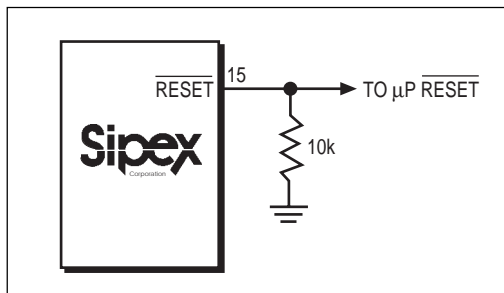

Figure 4. Adding an external pull-down resistor ensures RESET is valid with VCC down to GND.
1.6mA at $\overline{\text{VOUT}} = 0.5\text{V}$. When no backup battery is used, $\overline{\text{RESET}}$ output is valid down to $\text{VCC} = 1\text{V}$, and an external $10\text{k}\Omega$ pull-down resistor on $\overline{\text{RESET}}$ ensures that $\overline{\text{RESET}}$ will be valid with VCC down to GND as shown on *Figure 4*. As VCC goes below 1V , the gate drive to the $\overline{\text{RESET}}$ output switch reduces accordingly, increasing the $r_{\text{DS}}(\text{ON})$ and the saturation voltage. The $10\text{k}\Omega$ pull-down resistor ensures the parallel combination of switch and external resistor is $10\text{k}\Omega$ and the output saturation voltage is below 0.4V , while sinking $40\mu\text{A}$. When using a $10\text{k}\Omega$ external pull-down resistor, the high state for the $\overline{\text{RESET}}$ output with $\text{VCC} = 4.75\text{V}$ is 4.5V typical. For battery voltages greater than or equal to 2V , $\overline{\text{RESET}}$ remains valid for VCC between 0V and 5.5V . $\overline{\text{RESET}}$ will be asserted during the following conditions: